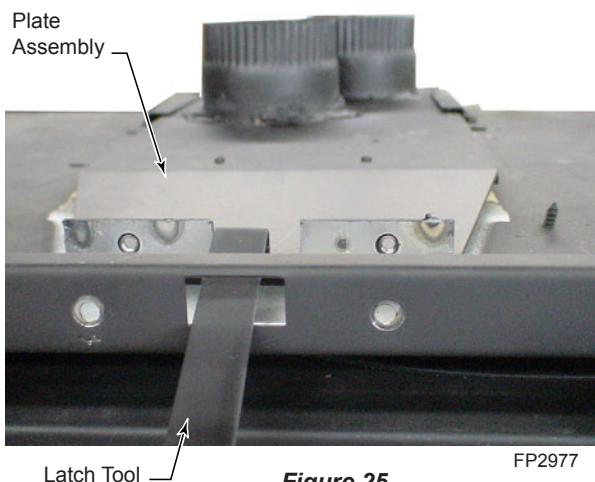

Figure 25
4. While sliding unit in place, if necessary the glass latch/shutoff tool can be used to help place the plate assembly. Using the small end of the tool, insert it in the square notch in top front of firebox. Hook the plate assembly with tool and pull forward into place while sliding firebox to the rear. *Figure 25*